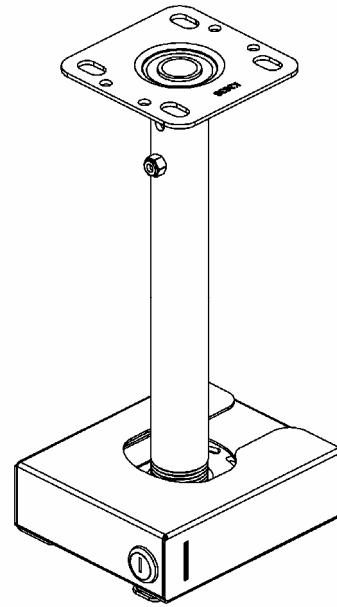
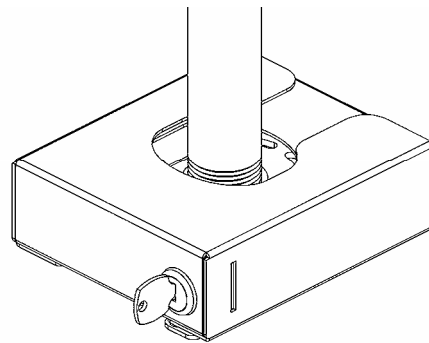

Figure 8. Projector Lock Assembled
Figure 9. Insert Key
1. With Projector Lock installed (see Figure 8), Insert key into vertical (unlocked position see Figure 9) key slot.